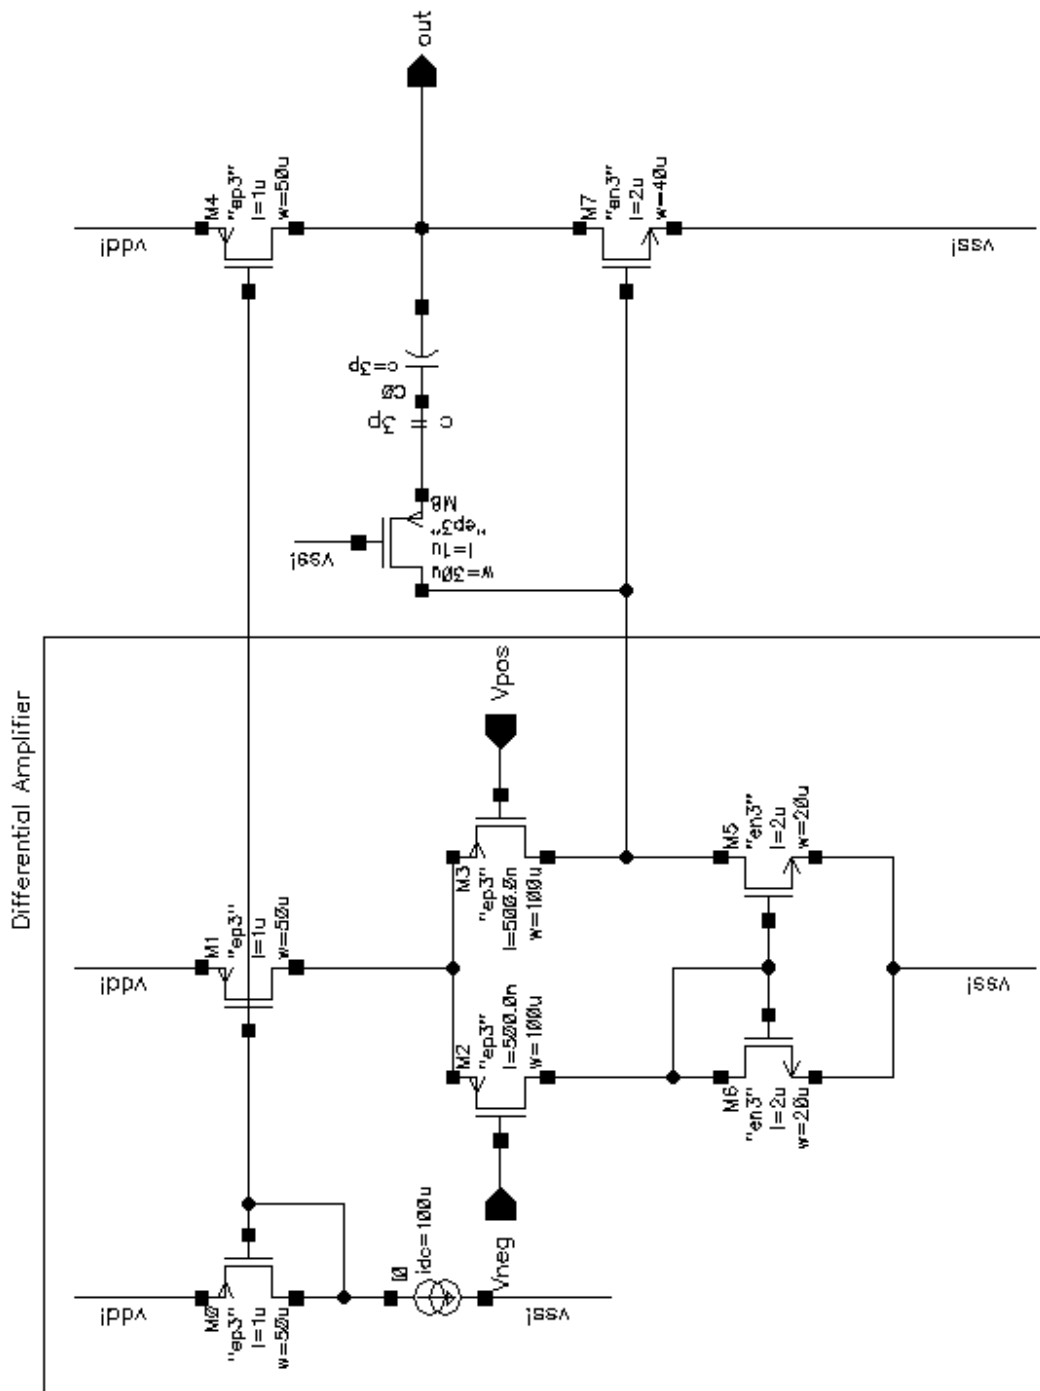

figure 1
1. Create and simulate the differential amplifier section of Figure 1.
2. Expand the schematic to create the entire opamp of Figure 1 and simulate the following properties:
Figure 1 shows a differential amplifier which is used as the first gain stage in the operational amplifier. Create it with Cadence Schematic Editor and create the netlist with analog artist. Remember to include the model file **mtcn0u35.mod** and add the power supply voltages to the netlist. Use  $V_{DD} = 1.5 \text{ V}$  and  $V_{SS} = -1.5 \text{ V}$ . See the earlier labs for details.
Expand the differential amplifier circuit to create the entire opamp schematic of Figure 1 and create a component symbol for the opamp: